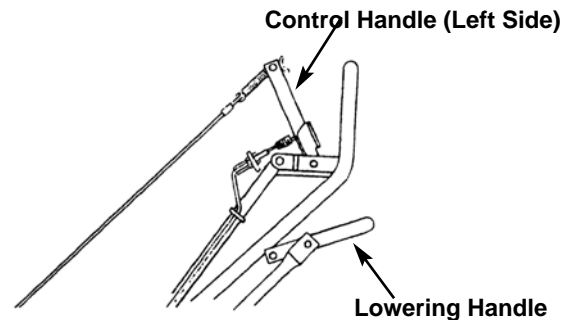

Fig. 1
6. Disengage the drive control(s) and tine lowering handle before starting. (See Pg. 3, Fig 1.)
1. Raise tines before transporting unit across surfaces or before transporting from one work area to another by lifting up on lowering handle (see Fig. 1).
2. Make sure the rear tires are in the down position (tines not touching ground). Slowly pull back on control handle(s). (See Fig. 1.)
4. Upon reaching the work area, release control handle(s) and push down on lowering handle (see Fig. 1) putting tines in the turf.